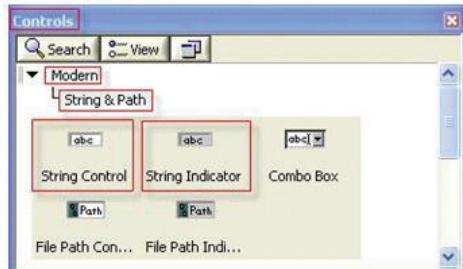

Figure 2.106: Insert String
**String Control** or **String Indicator** are insert on the **Front Panel** of **Controls Palette >> Modern >> Strings & Path**, as shown in figure 2.106.